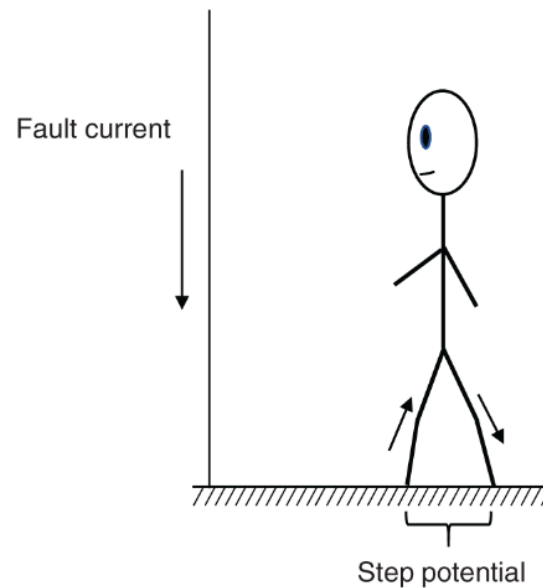

Figure 10.3 Current through human body due to step potential.
- Step potential is defined as the potential difference on the ground between two feet when a person walks. This potential difference sends a current through the legs of a person as shown in Figure 10.3.